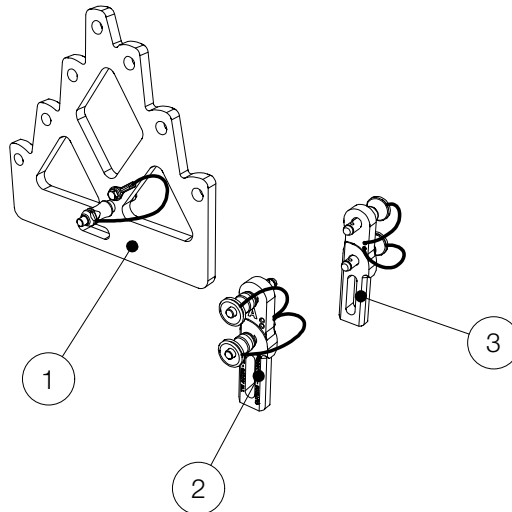

Figure 2.1 - Groundstack-kit VERAGSK36
16. Lift the VERA36 loudspeaker with one hand and with the other hand insert the VERA GSK36 rear-adapter (see figure 2.1 - Pos.1), with the previously selected number of degrees, into the center brace of the VERARF900 rigging frame. Slide this under the hook on the rear rigging of the VERA36 loudspeaker.